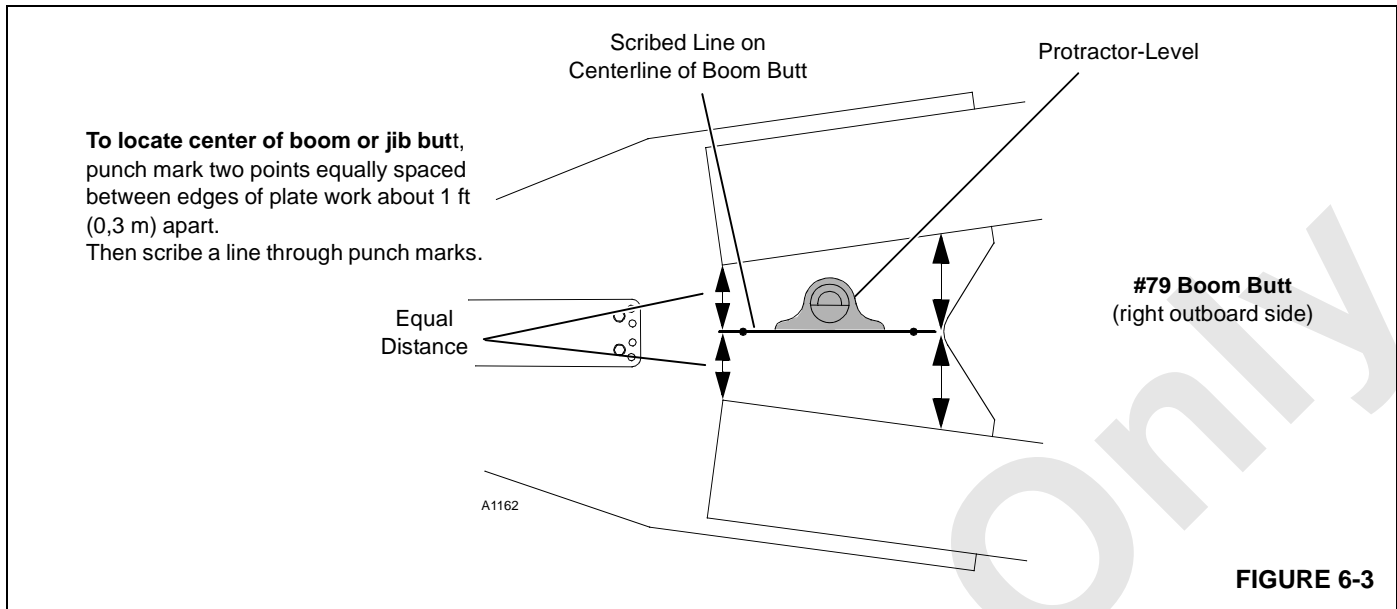

FIGURE 6-3
2. Scribe a line through punch marks on center line of boom butt as shown in Figure 6-3.
3. If center line of boom butt is not punch marked, locate center line as instructed in Figure 6-3.
- b. Check boom angle using an accurate protractor-level placed on centerline of boom butt (Figure 6-3, View B).